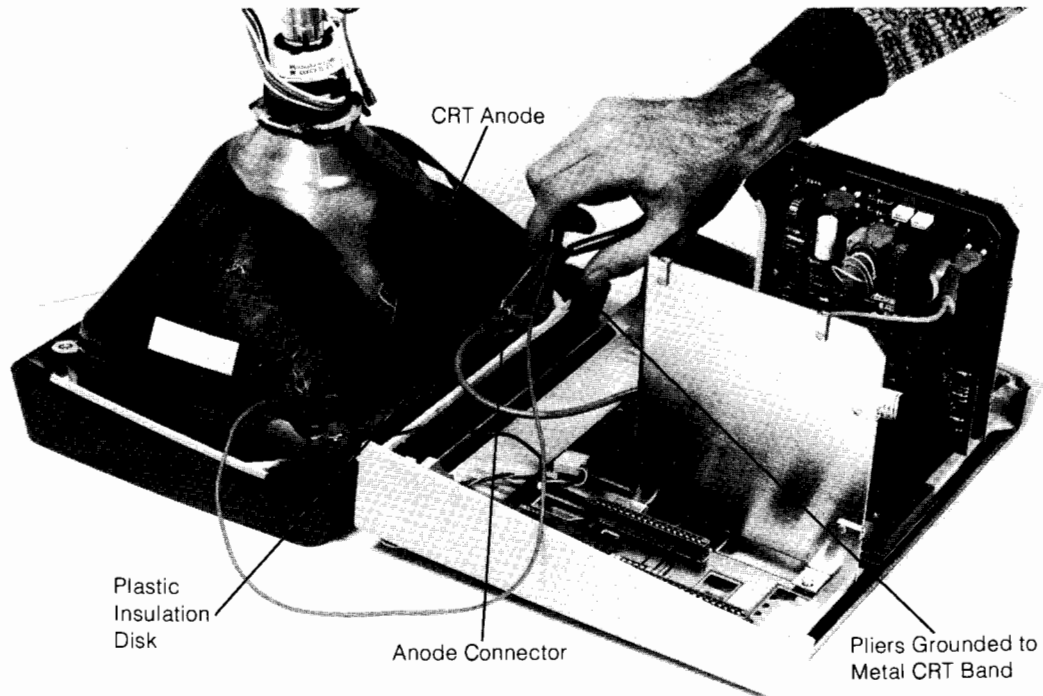

Figure 3-6: Anode Connector Removal
- Set the bottom chassis down (see Figure 3-6).
- Use grounded needlenose pliers with insulated handles to remove the anode connector (see Figure 3-6). Lift the plastic insulation disk of the anode connector. Pinch the connector wires together and remove the anode connector.